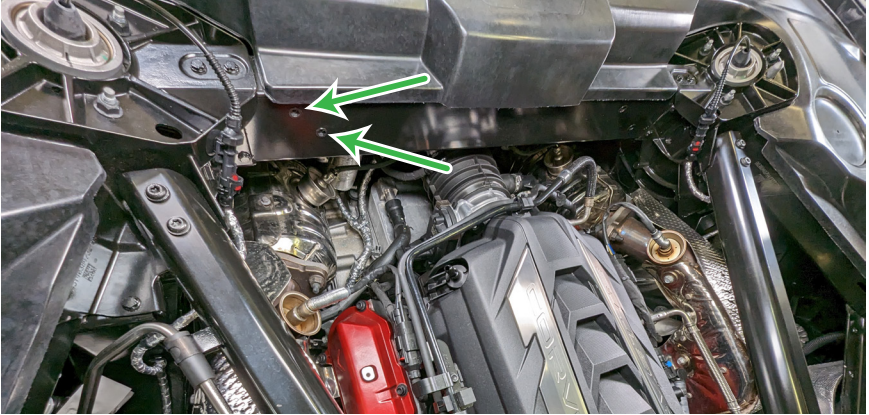

Figure 3 - Mounting Holes in Engine Compartment
1. Locate the two mounting holes shown in Figure 3.